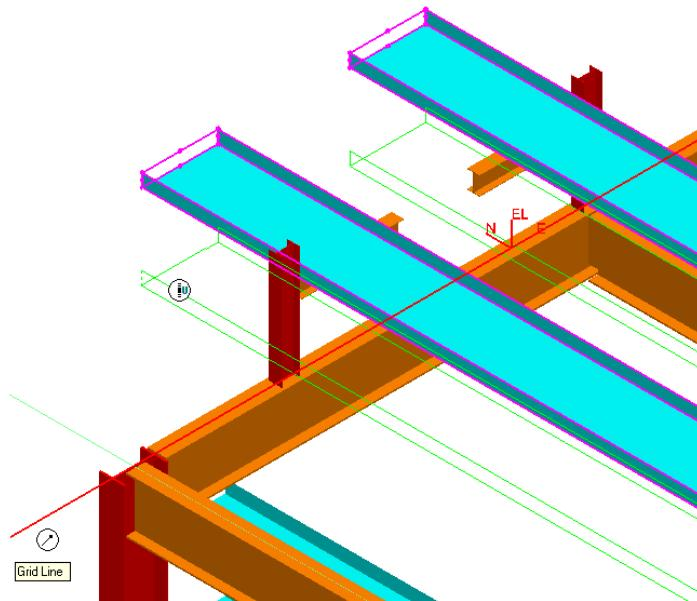

Figure 17: Move Option on the Edit Ribbon
16. Position the cursor until you get the **Up** SmartSketch glyph which indicates you are aligned to the major Z axis. Click the middle mouse button to constraint the cursor movement along this axis. Then position the cursor to identify the gridline to get the correct elevation coordinate, as shown in Figure 17.